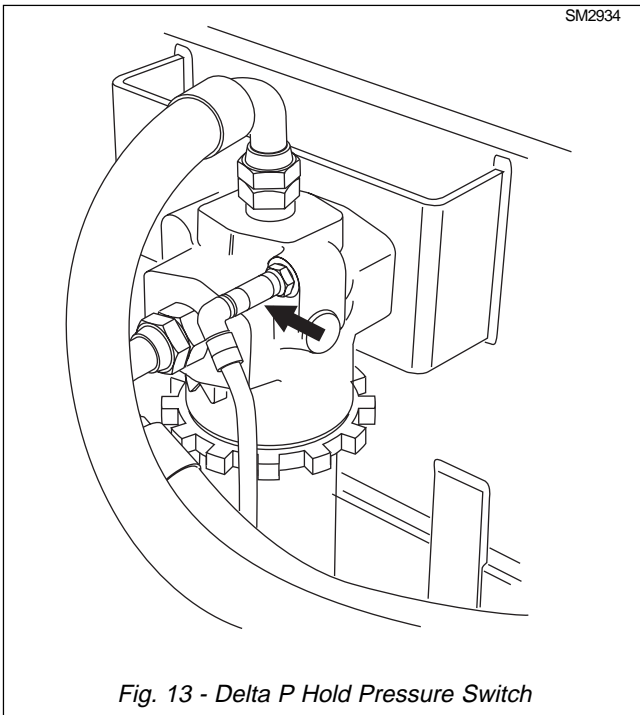

Fig. 13 - Delta P Hold Pressure Switch
5. **Delta P Hold** - The ECU prevents any up-shifts should the transmission filter switch sense a pressure differential of 2.5 bar (35 psi). This function is only active when oil temperature is $>40^{\circ}\text{C}$ (104°F). (Ref. Fig. 13)